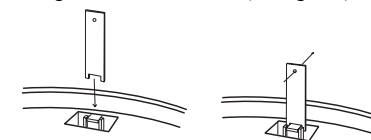

Figure 4
- 9.5.2 Remove alarm cover by using the special tool provided on the three locking tabs on the alarm base (see Figure 4).